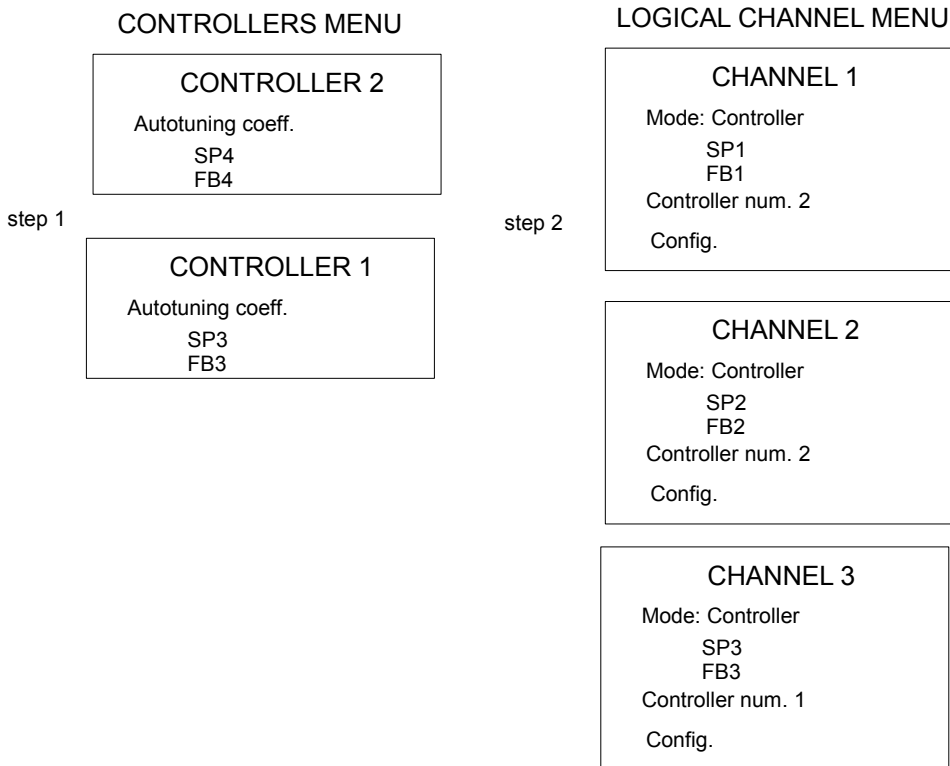

Fig. 7.122. Configuration diagram of the **Controller** using Controller Menu
- through the menu Controllers in the Device Configuration menu (see Fig. 7.122),